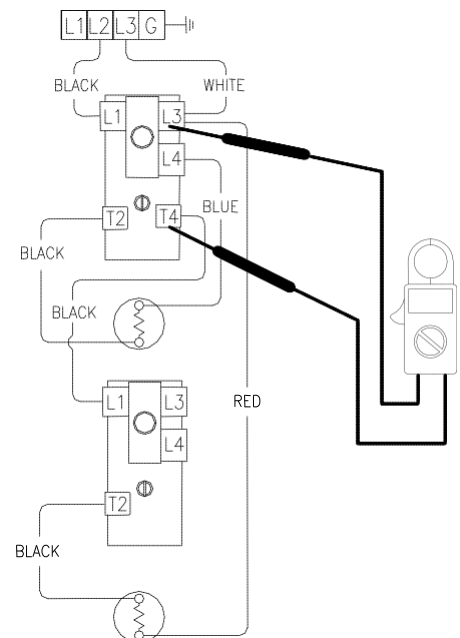

Figure 8
6. Check voltage across terminals L3 & T4 of upper thermostat (see Figure 8).